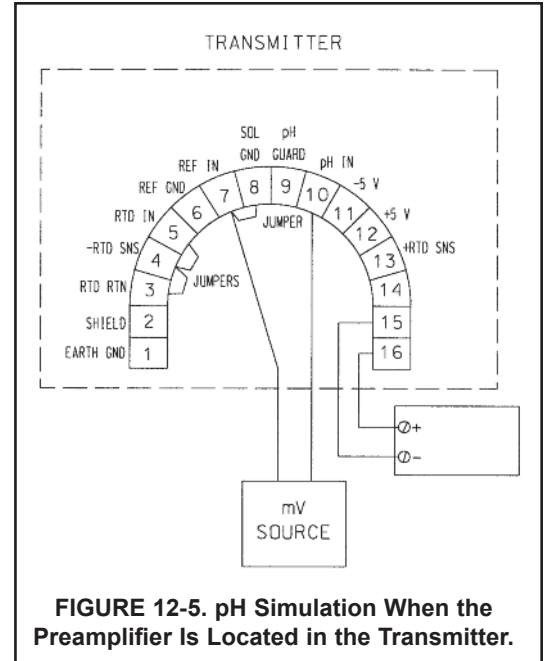

FIGURE 12-5. pH Simulation When the Preamplifier Is Located in the Transmitter.
4. Disconnect the sensor and wire the transmitter as shown in Figure 12-5.